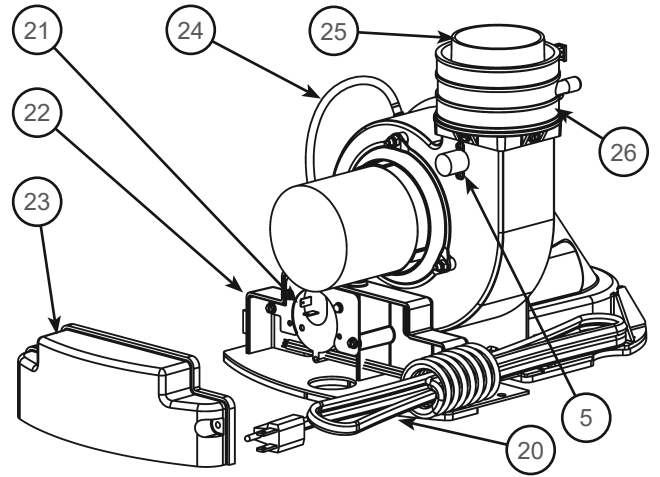

Figure 54.
- 5 Blower High Limit Switch (see Figure 6) (see also Figure 54)
- 20 Blower with Power Cord (see also Figure 6) (see also Figure 54)
- 21 Air Switch (inside box) (see Figure 6) (see also Figure 54)
- 22 Junction Box (see Figure 6) (see also Figure 54)
- 23 Junction Box Cover (see Figure 6) (see also Figure 54)
- 24 Air Tubing (see Figure 6) (see also Figure 54)
- 25 Rubber Coupling (see also Figure 6) (see also Figure 54)
- 26 Gear Clamp (see also Figure 6) (see also Figure 54)